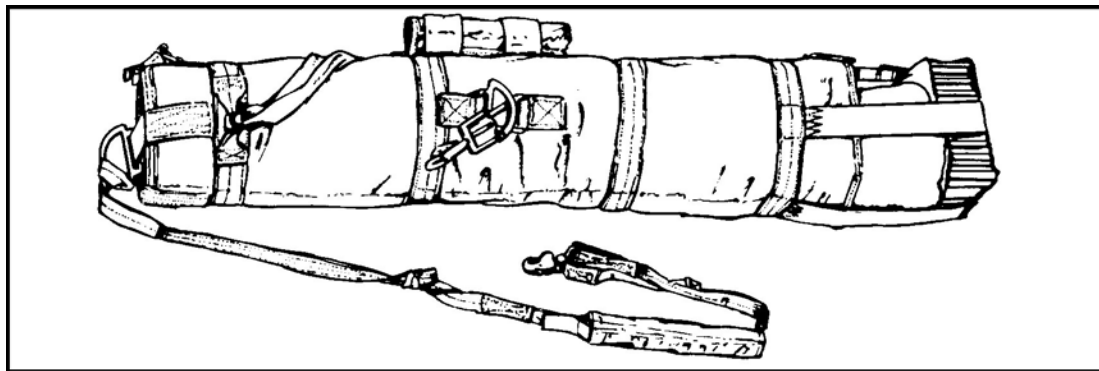

Figure 12-53. Attaching strap secured.
(1) S-fold the lowering line neatly on top of the web inside the retainer, ensuring that the ends are stacked evenly with the retainer flap outer edges. Secure the pile tab on the web located at the ejector snap end to hook extension on retainer.
(2) Fold the hook side of the flap tightly over the S-folded lowering line and, holding it firmly, fold the pile side of flap over and secure hook and pile together.
(3) Secure the pile extension on the flap retainer to the hook tab at the loop end of the lowering line (Figure 12-53).
(1) Attach the lowering line to the lowering line attaching strap by routing the loop of the lowering line through the small loop end of the lowering line attaching strap.
(2) Route the lowering line through its own loop and pull tight (Figure 12-53).
(1) If not already installed, attach the lowering line attaching strap to the nonadjustable cross strap D-ring by routing the large loop around the D-ring.
(2) Route the lowering line through the attaching strap loop and pull tight (Figure 12-53).